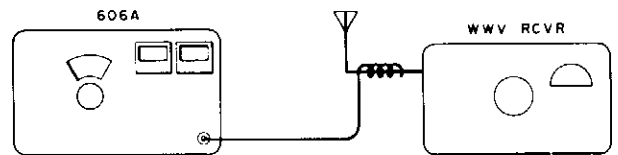

Figure 4-4. Frequency Calibration
- c. Lightly couple a single wire from the RF OUT jack of the Model 606A to the antenna as shown in **Figure 4-4**.